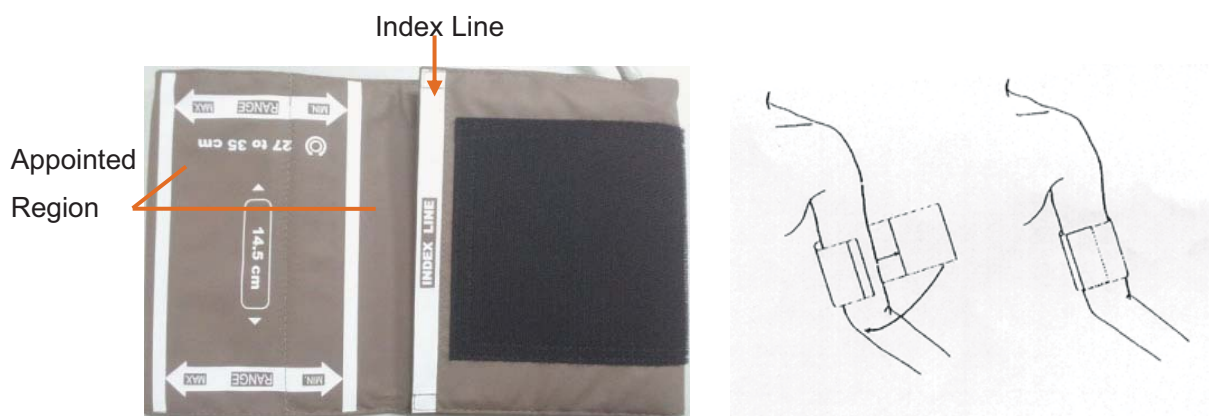

Figure 9-4: Applying the Cuff
3) Apply the cuff to the patient; make sure that the index line is placed in the appointed range and the symbol  is over the appropriate artery (Refer to figure 9-4). If the index line is not in the appointed range, please replace for a proper one. Ensure that the cuff is not wrapped too tightly around the limb. Excessive tightness may cause discoloration and eventual ischemia of the extremities.